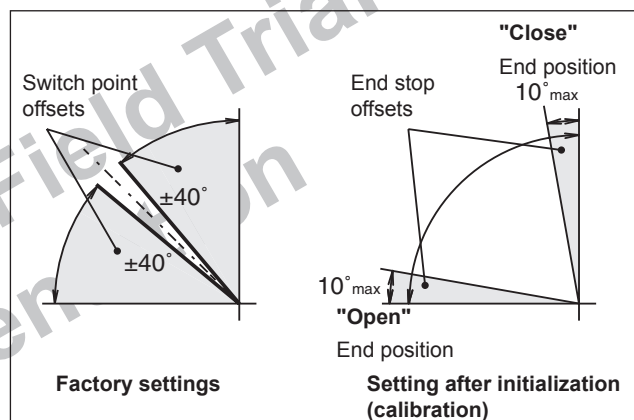

Fig 3.1 Switch point characteristics
- 6 The exhaust ports Ra and Rb on the module (see figure 3.1) are shipped from the factory with transport protection.
Initialization sets automatically the switch points for the position feedback of the actuator (see fig. 3.1). Additionally, initialization checks if the actuator and control module configuration match. This procedure will detect the action type (Fail-Open, Fail-Close or Fail in last position) and generate an alert if there is a configuration issue.